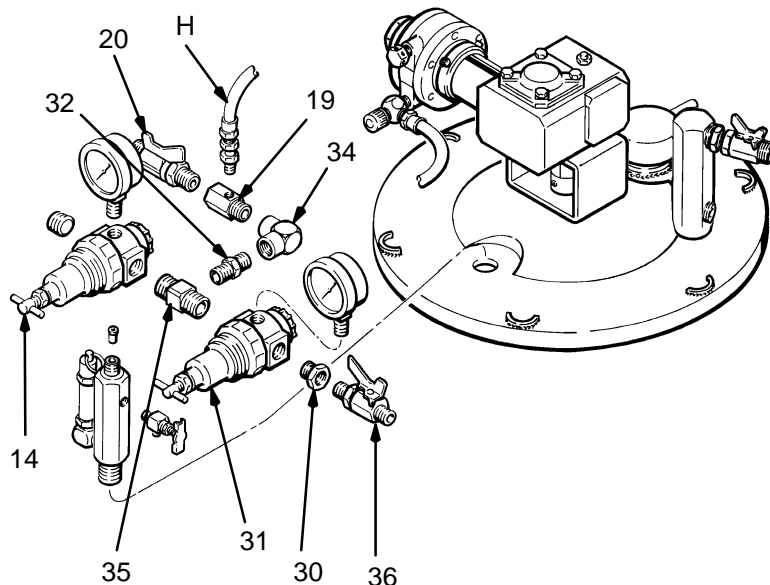

Fig. 4
Connect the inlets of the two regulators (14, 31) with the regulator nipple (35). Screw the bushing (30) and the ball valve (36) into the atomizing air regulator (31) outlet. See Fig. 4.
Screw the nipple (32) into the regulator nipple (35). Screw the elbow (34) tightly onto the nipple (32), lifting the elbow at an angle to clear the agitator. See Fig. 4.
To install an accessory air operated agitator, see manual 307-792. Connect the agitator hose (H) to the air inlet manifold (19) as shown in Fig. 4.